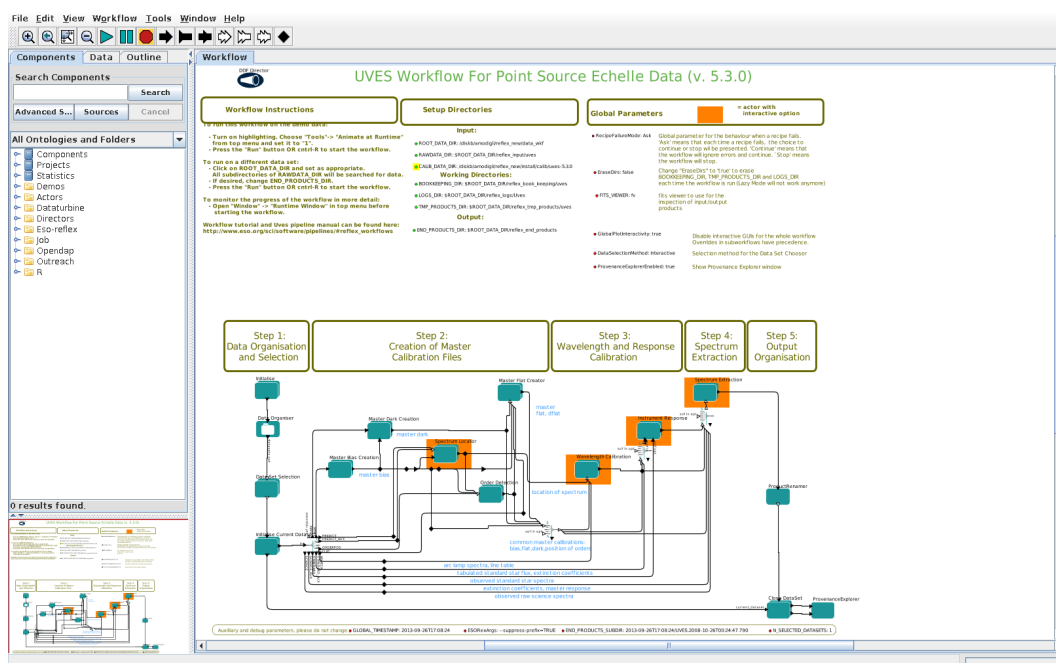

Figure 4.2: UVES workflow general layout.
2. Now open the UVES workflow by clicking on File -> Open File, selecting first `uves-5.3.0` and then the file `uves.xml` in the file browser. You will be presented with the workflow canvas shown in Figure 4.2. Note that the workflow will appear as a canvas in a new window.